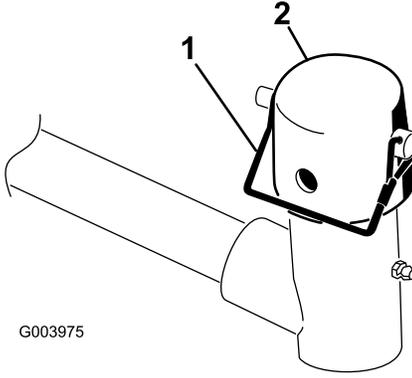

Figure 4
3. At each cutting unit lift arm, remove the lynch pin that secures the cap to the lift arm pivot yoke, and remove the cap (Figure 4).